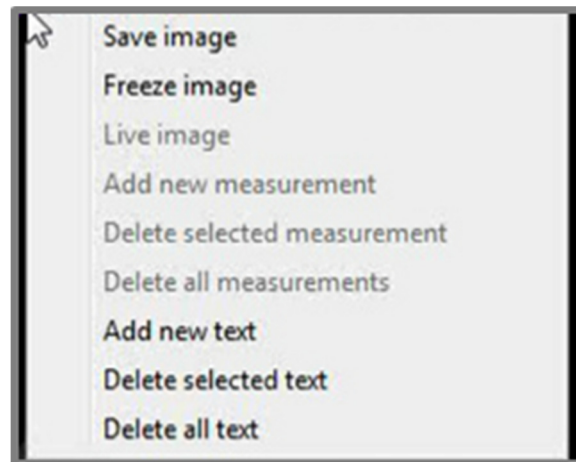

Figure 6-2. Right-click menu displaying annotation options.
Text can be added and placed on the ultrasound image using the right-click menu, see Figure 6-2.
- Choose “Delete selected text” or “Delete all text,” see Figure 6-2, depending on what you want to delete, and use the right-click menu.